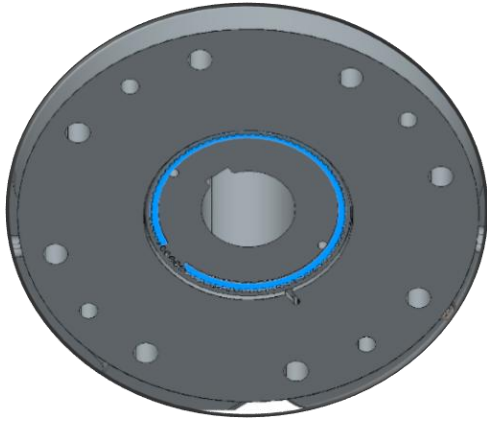

Figure 6 - Retaining Ring
- Remove the retaining ring Highlighted in **Figure 6 - Retaining Ring** using a flat screwdriver.